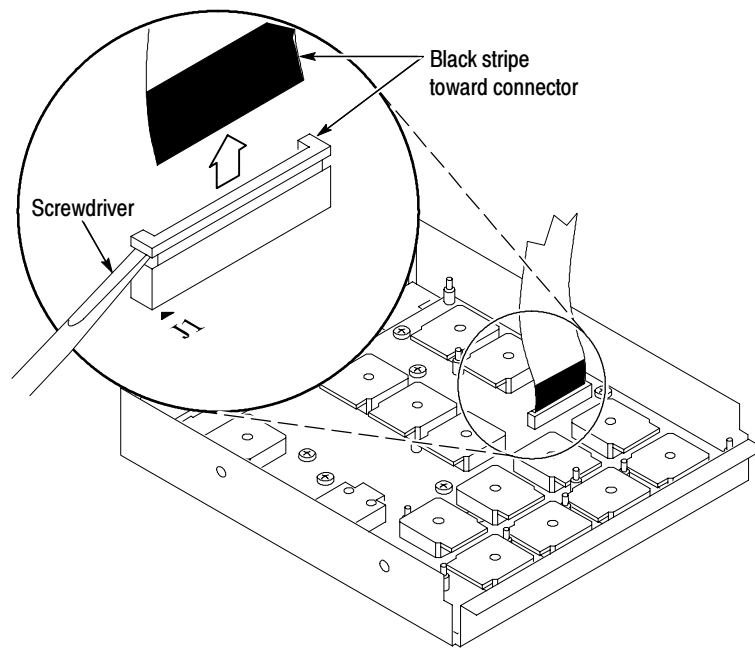

Figure 10: J1 flex cable connector removal
- c. Use the $\frac{1}{8}$ inch flat-bladed screwdriver to carefully lift the J1 cable connector lock up to disconnect J1 flex cable from the display module assembly. See Figure 10 on page 15. Note the pin 1 index mark on the connector and the black stripe on the cable for later reassembly.